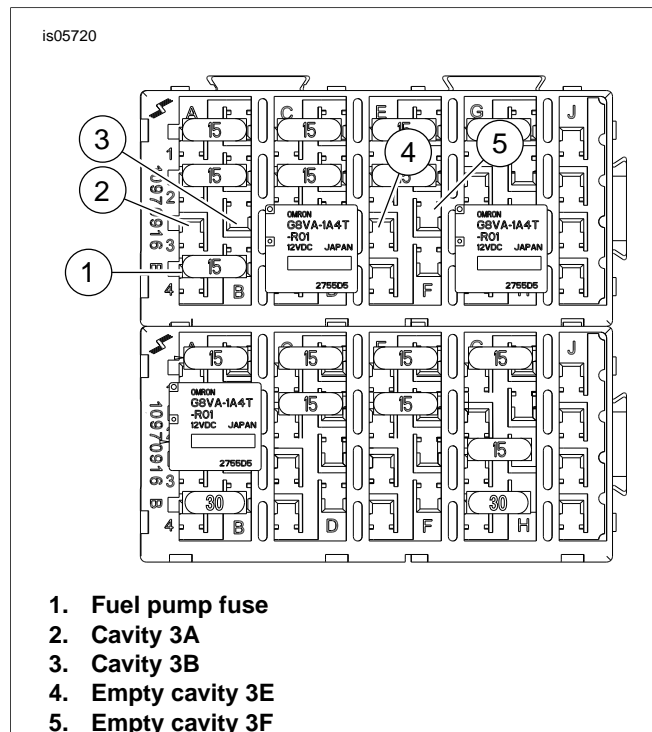

Figure 4. Fuse Block (2008-Earlier Models Shown)
3. See Figure 4. Remove fuel pump fuse (1) from fuse block.
- a. Remove exhaust control fuse from cavities 3A (2) and 3B (3).
- d. Install exhaust control fuse into cavities 3E (4) and 3F (5).
9. See Figure 4. Install original fuel pump fuse and install fuse provided in kit to new circuit in fuse block cavities 3A and 3B.